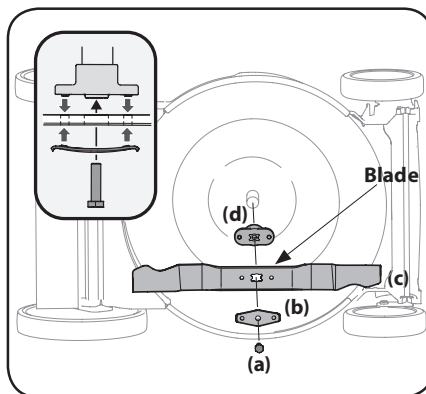

Figure 4-1
3. Remove bolt (a) and blade bell support (b) which hold the blade and the blade adapter to the motor shaft. See Figure 4-1.
4. Remove blade (c) and adapter (d) from the shaft. See Figure 4-1.
6. Lubricate the motor shaft and the inner surface of the blade adapter with light oil. Slide the blade adapter (d) onto the motor shaft. Place the blade on the adapter such that the side of the blade marked "Bottom" (or with part number) faces the ground when the mower is in the operating position. Make sure that the blade is aligned and seated on the blade adapter flanges. See Figure 4-1 inset.